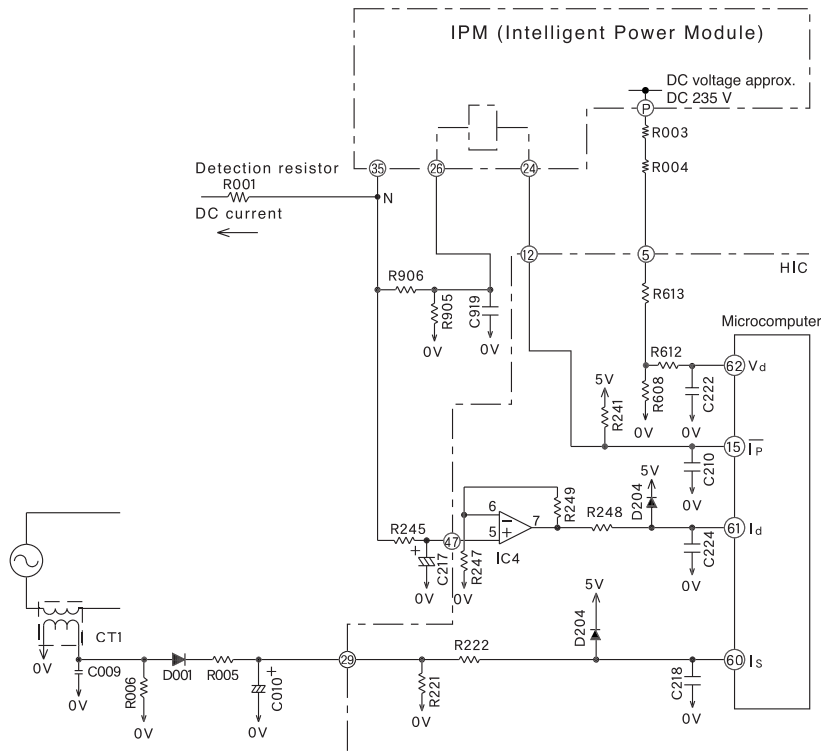

Fig. 6-5
(2) ID OVL
Fig. 6-5. The filter consisting of R245 and C217 removes high harmonic frequencies from the voltage generated by the current flowing to Detection resistor; R245 and C217 average the voltage. This voltage is then input to IC4 pin ⑤ and supplied to microcomputer pin ⑥0. The microcomputer compares this input with the set value, and if the input exceeds the set value, it enters overload control status.